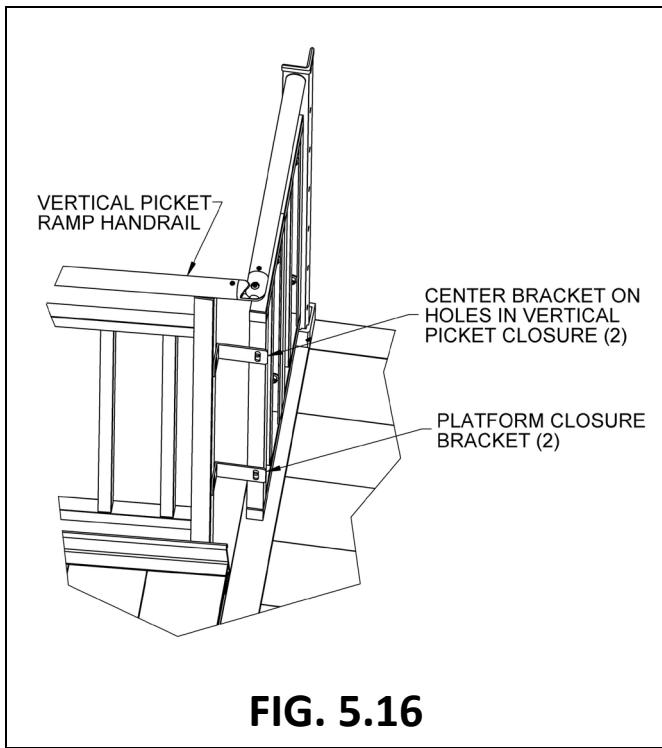

FIG. 5.16
- 5.6.5. Locate the platform closure brackets and clamp the closure brackets to the ramp handrail post such that the long leg is in contact with and centered on the upper and lower holes in the Vertical Picket Closure (FIG. 5.16).